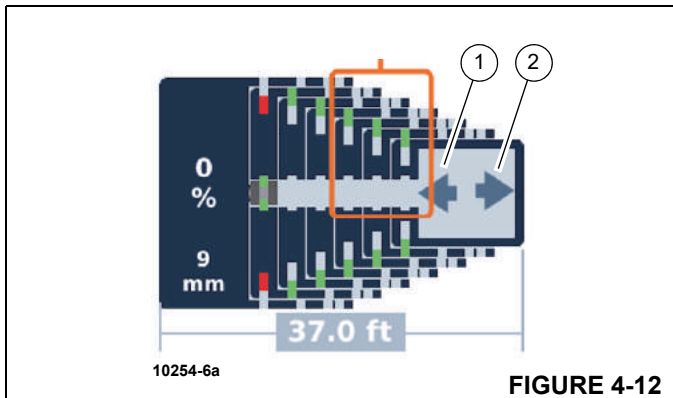

FIGURE 4-12
Telescoping will only start if left arrow for retracting (1, Figure 4-12) or right arrow for extending (2) is shown in the indicated location of the operating display screen (either the semi-automation or manual telescoping screen).